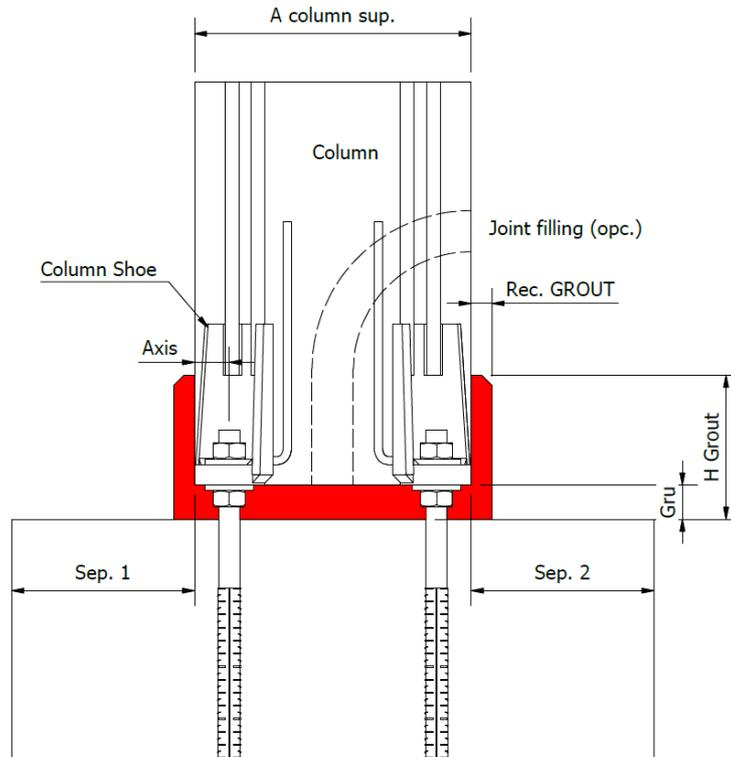

Figure 9.2 Dimensions to be respected during installation
- In the case of column-column connection (according to Figure 9.2), it is necessary to shift the anchors and Column Shoes to avoid interference with reinforcement due to minimum coatings. This situation occurs when one face is aligned with the lower cement face (value of A = value of B). The "Axis" value is greater than the one defined on the previous page.